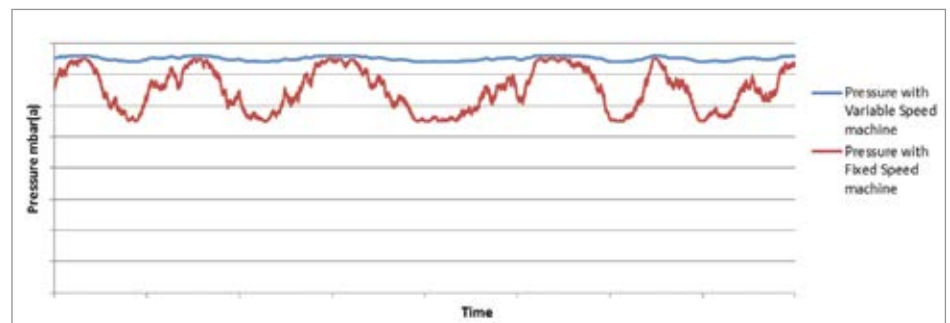

Figure 6: Holding the pressure constant with VSD technology reduces energy utilized by fixed-speed vacuum pumps operating within a pressure band.
2. **Maintaining Optimum Pressure:** The VSD-controlled vacuum pumps from Atlas Copco help facility managers achieve an accurate control of their pressure supply. While pressure from fixed-speed machines may continuously fluctuate during operation, the VSD controls provide a more stable pressure band (Refer to Figure 6).